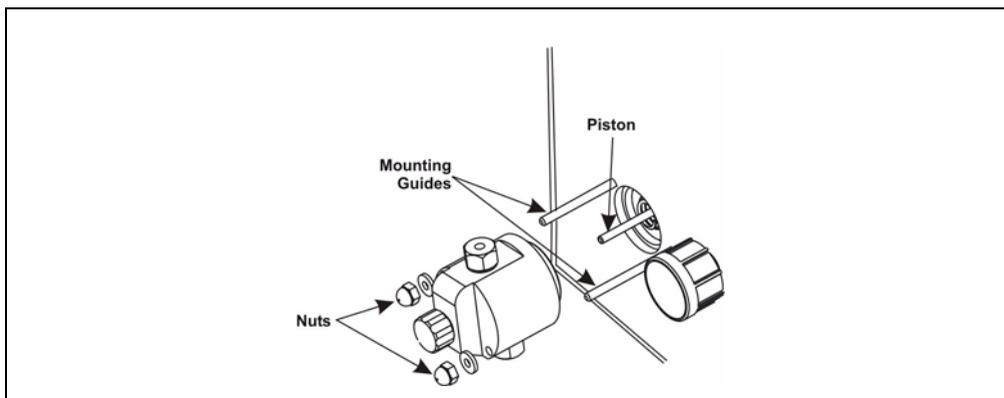

Figure 5-5. Removing the Pump Head
4. Hold the head firmly against the pump housing, to compensate for the spring loading, and remove the two nuts (see Figure 5-5).
CAREFULLY disengage the head from the sapphire piston by pulling the head straight off and away from the mounting guides (see Figure 5-5). Be especially careful not to snap the piston if the internal spring sticks to the piston guide.
5. Slowly release the head and allow it to separate from the housing. **CAREFULLY** disengage the head from the sapphire piston by pulling the head straight off and away from the mounting guides (see Figure 5-5). Be especially careful not to snap the piston if the spring is stuck to the piston guide.